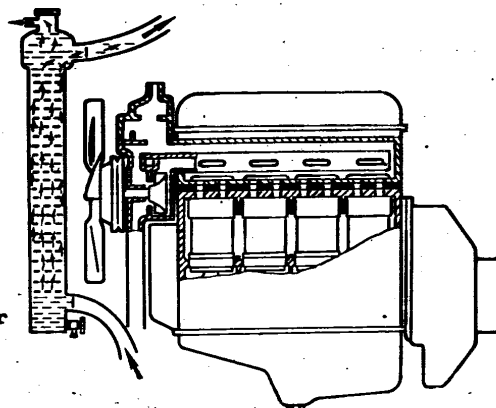

Fig. 31. Flushing Radiator
- flush the radiator with hot water at a pressure of 0.5 kgf/cm^2 for 30 - 40 min in the direction opposite to normal circulation (Fig. 31).